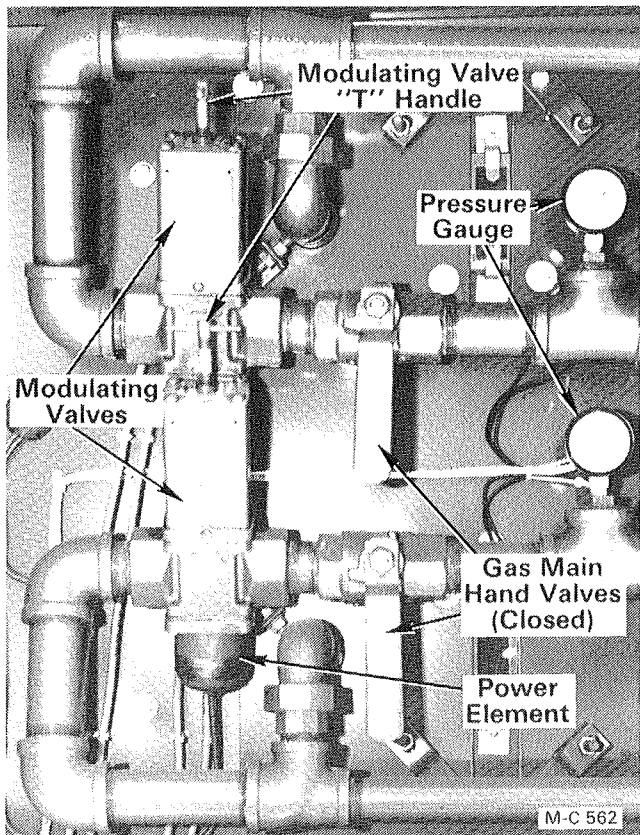

Figure 11 - Two Burner Cabinet
3. Flip the bottom burner ignition switch ON. Open the gas main hand valve (Figure 11) ¼ of the way. The gas valve light will be ON and the burner will light.